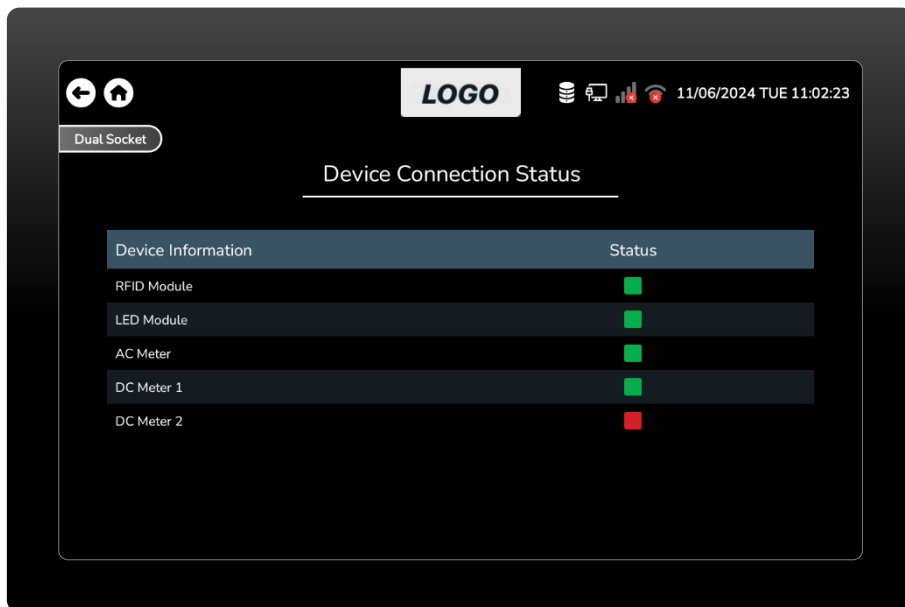

Figure 79 Device Connection Status Screen
- This is a device connection status screen that indicates the status of devices such as RFID and LED modules, as well as AC, DC meters 1 and 2. (Figure 79)